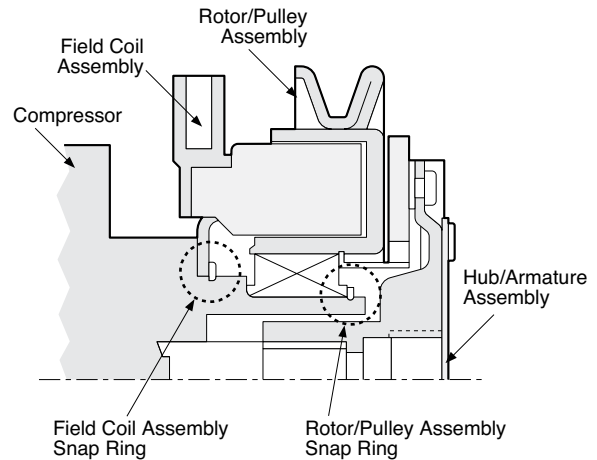
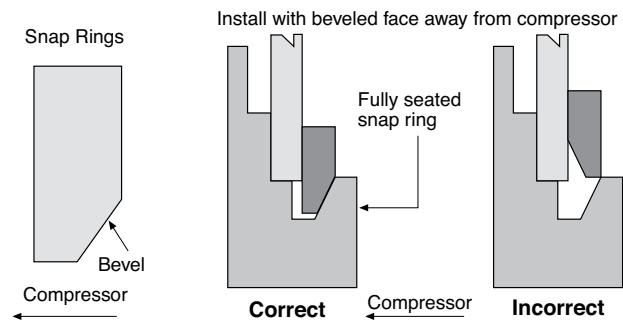

Figure 2
Figure 3
*For a 6C17 Compressor, Install the field coil assembly (2) with the retaining ring (3) provided with the new Warner clutch. Discard the old retaining ring.
With a snap ring pliers, spread the field coil snap ring (3) and insert it into the groove on the compressor nose. (See Figure 2) To assure assembly retention, ring bevel must face away from the compressor. (See Figures 3 and 4)
- A. Install the rotor/pulley assembly (4) onto the compressor (1). If the rotor/pulley does not slide on easily check the compressor nose for nicks or burrs and remove. If the rotor/pulley still does not slide on easily, rock the rotor/pulley back and forth by hand until it slides completely onto the compressor (1).
- B. Make sure there is no interference between the field coil (2) or lead wires and the rotating rotor/pulley (4).
- C. Install the rotor/pulley snap ring (5). With a snap ring pliers, spread the snap ring and insert it into the groove on the compressor nose. (See Figure 2) To assure assembly retention, the snap ring bevel must face away from the compressor. (See Figures 3 and 4)